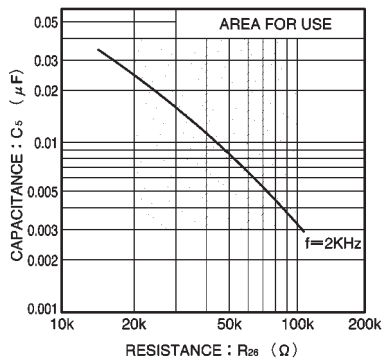

Fig. 7 Value of external components for oscillator ( $V_{cc} = 5.0V$ )
3) The external resistor R26 connected to the oscillator (pin 30) should be in the range of 20kΩ and 100kΩ. If it is outside this range, oscillation may stop due to the influence of temperature (see Fig. 7).